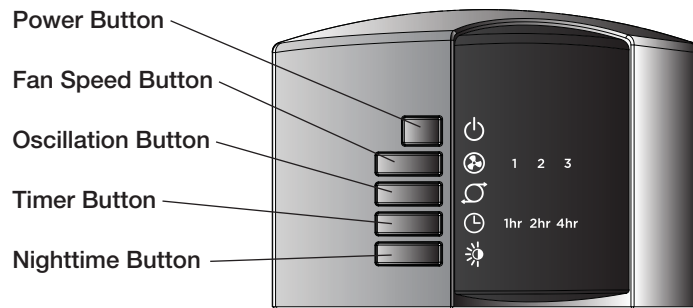
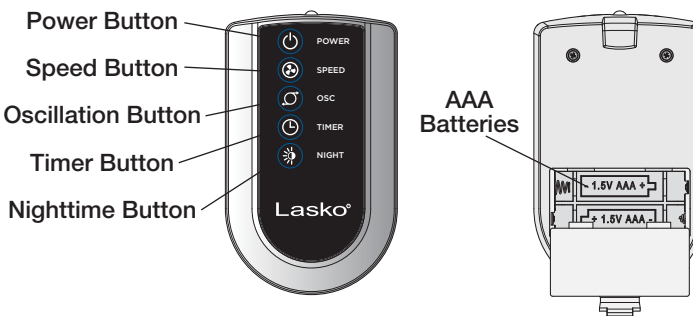

Figure 4
Figure 5
This Fan may be operated by the Manual Controls located on front of the unit *(Figure 4)* or by the Remote Control *(Figure 5)*.
1. Install two "AAA" batteries (not included) as shown in Figure 5.